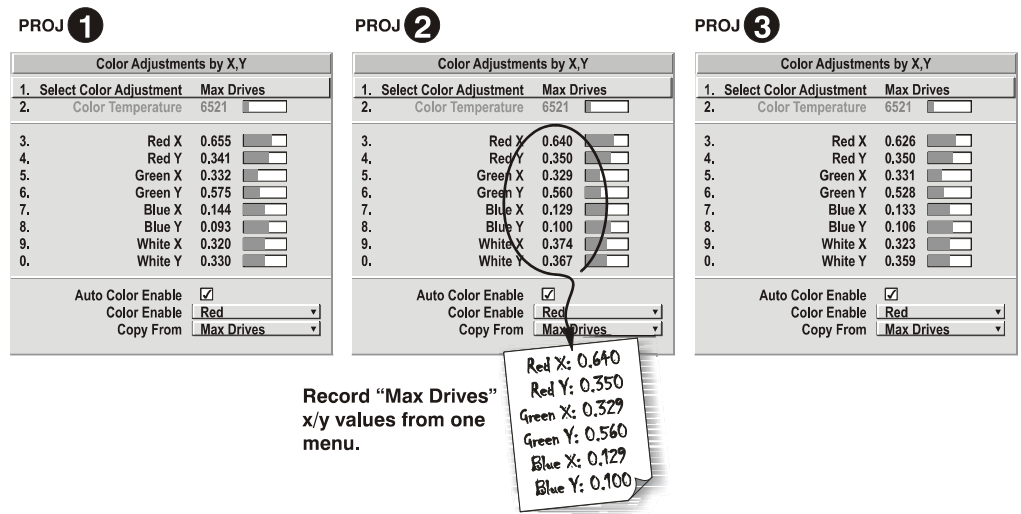

Figure 3.28. Jot Down a Set of “Max Drives” X/Y Values
4. Display the *Color Adjustments by X,Y* menus for all projectors. Each menu shows the x/y coordinates defining the “Max Drives” color gamut for this projector. Write down the values shown in one (any) of the displays. See Figure 3.28. Or use the “Copy From” function to copy them into a “User” gamut in one projector.